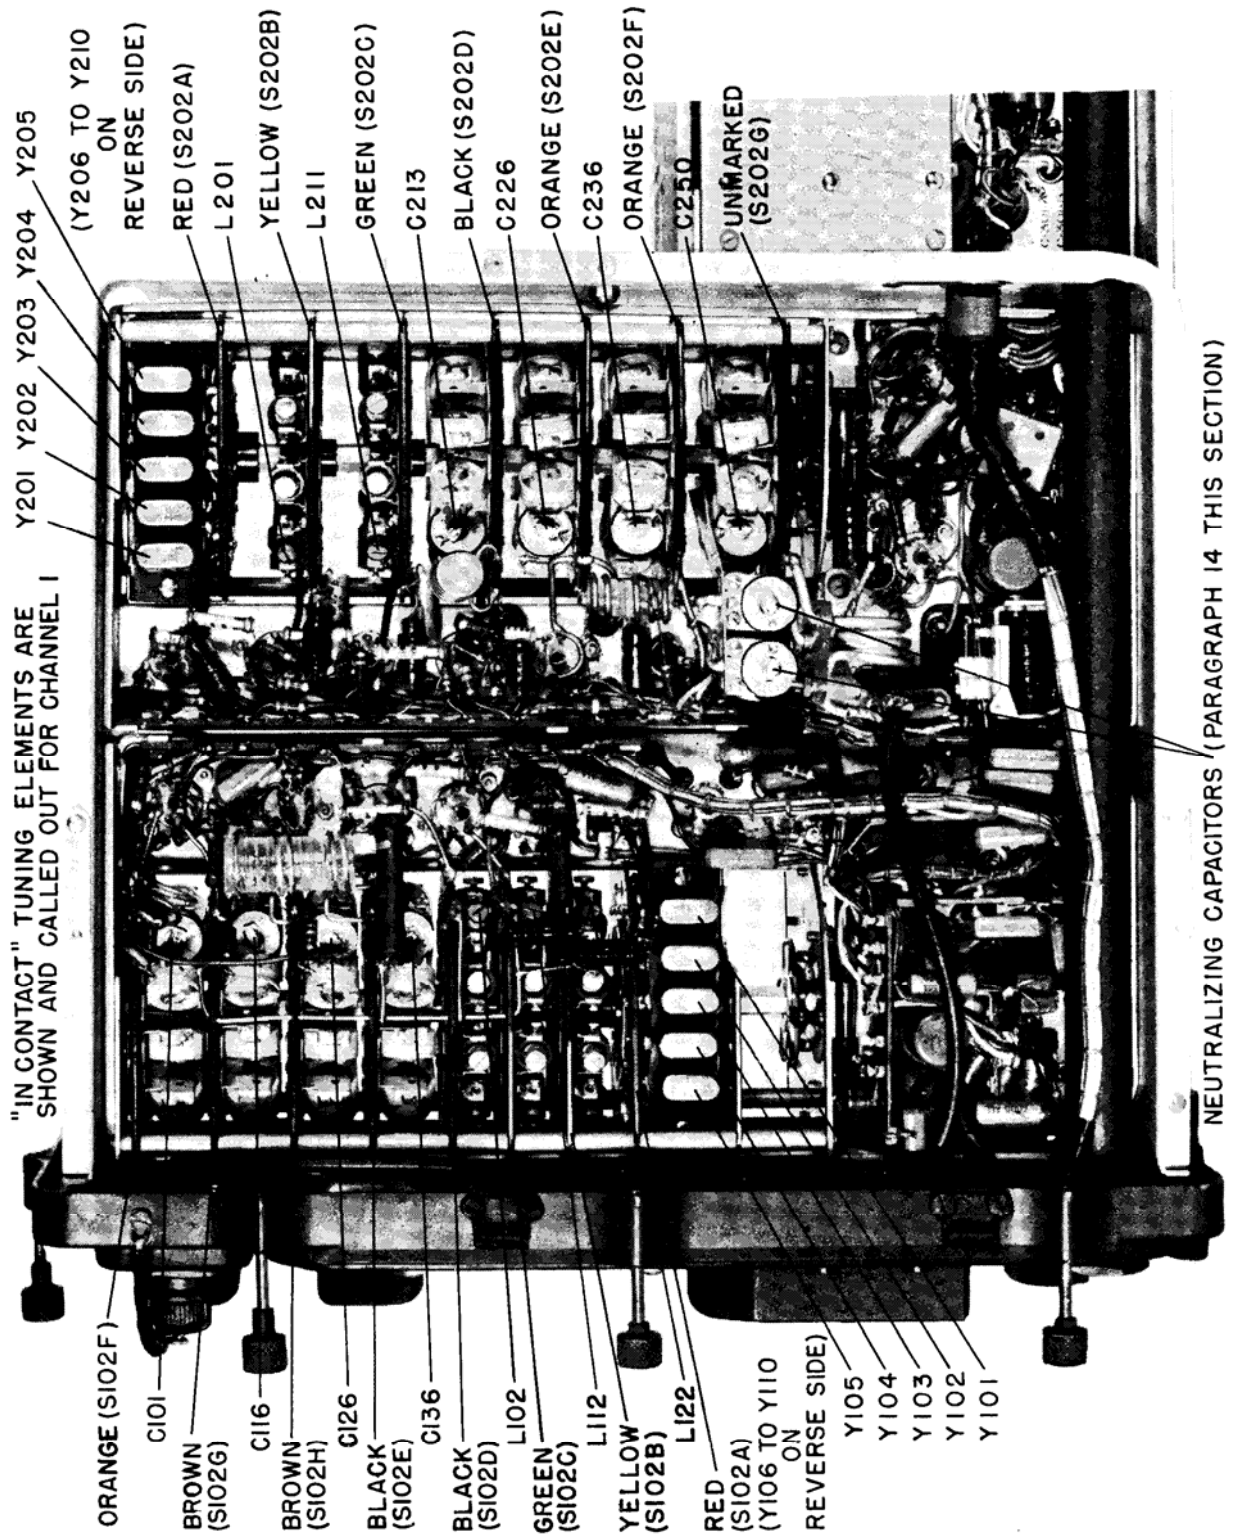

Figure 6-5. Channel Alignment Adjustments
Figure 6-25 shows pictorially the transmitter turret color coding and may be used to complement figure 6-5, which is referenced in the procedure below.
- Step 1. Turn CHANNEL SELECTOR knob to the channel to be aligned and insert proper crystal in corresponding transmitter crystal socket. See figure 6-5. (The transmitter crystal frequency will be 750 kc above that of the receiver.)
(1) "CONTACT POSITION" COIL OR CAPACITOR. — Examination of the turret switch will show that there are ten tuning components on each wafer, but only one is connected to the associated circuit at each position. The capacitor or coil which is in contact with the circuit is said to be in the "contact position", and is the one to be adjusted for that stage. Figure 6-5 shows the capacitors and coils of channel one in "contact position".
(2) TUNING TO RESONANCE.—In tuning for "resonance", turn the tuning component through its full range of adjustment and note the highest meter reading obtained. Turn back to the highest-reading position and then adjust carefully back and forth to obtain the highest possible meter indication. This peak reading indicates the point of correct adjustment, and turning in either direction from this point will cause a drop in the meter reading. (Don't be misled by false peaks; pick the highest if there is more than one.)
Figure 6-24 shows pictorially the receiver turret color coding and may be used to complement figure 6-5, which is referenced in the procedure below.
- Step 1. Turn CHANNEL SELECTOR knob to the position to be aligned and insert proper crystal in corresponding receiver crystal socket. See figure 6-5. (The receiver crystal frequency will normally be 750 kc below that of the transmitter.)